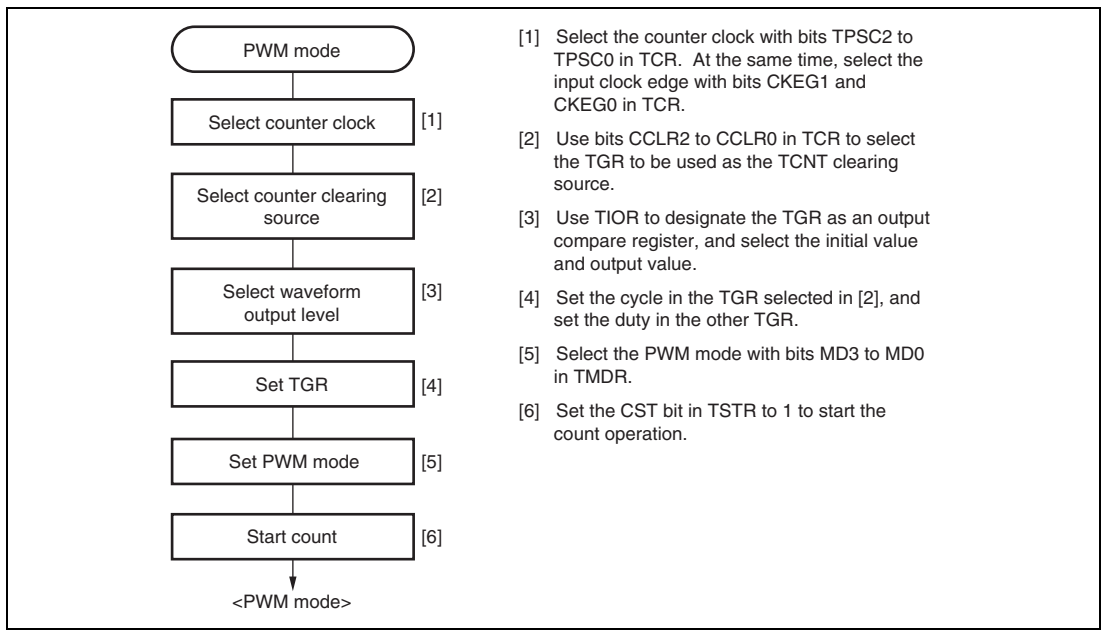

**Figure 11.20 Example of PWM Mode Setting Procedure**
**Example of PWM Mode Setting Procedure:** Figure 11.20 shows an example of the PWM mode setting procedure.